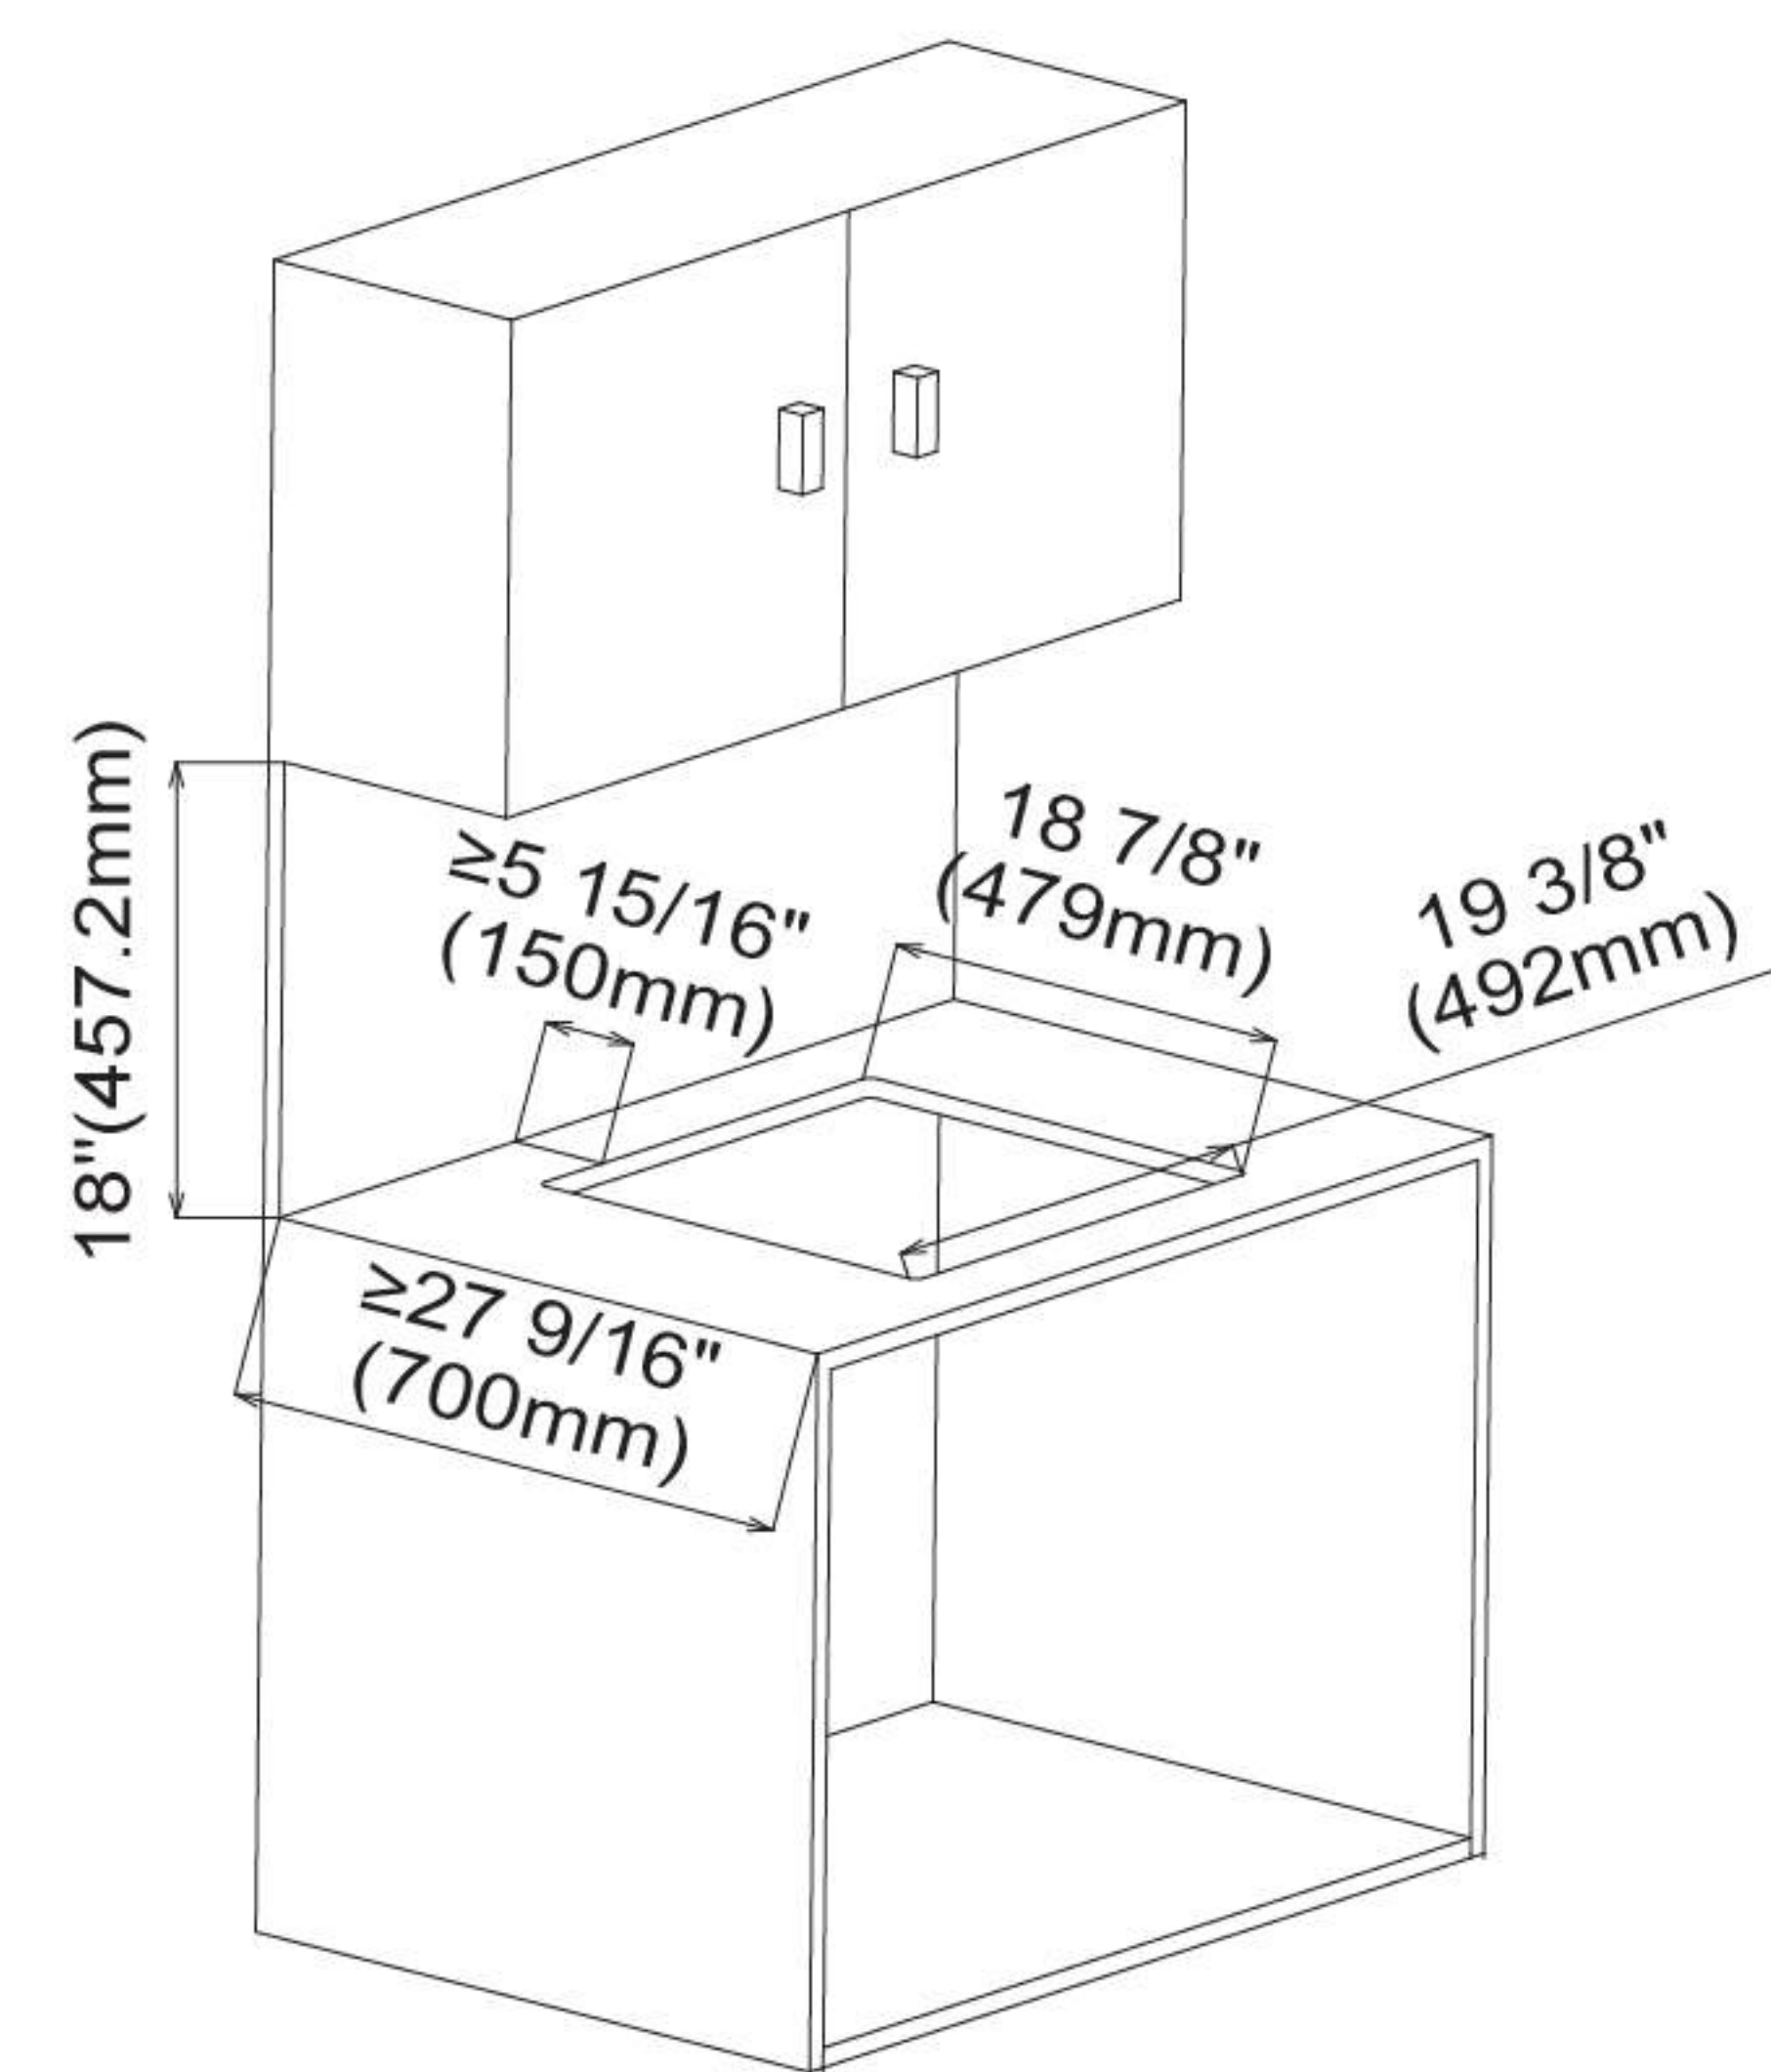

Fig. 1 (Drawing 18in)
9. If there is a wall-hung cabinet above the cupboard to be installed, a certain distance shall be kept between the hole and the wall surface. If the distance between the wall-hung cabinet and the countertop is 18in (457.2mm), the clearance from the front edge of the hole to the wall surface shall be equal to or greater than 5 15/16" (150mm) and the cupboard countertop depth shall be equal to or greater than 27 9/16" (700mm), as shown in Fig. 1 below; if the distance between the wall-hung cabinet and the countertop is 19in (482.6mm), the clearance from the front edge of the hole to the wall surface shall be equal to or greater than 2 13/16" (70mm) and the cupboard countertop depth shall be equal to or greater than 24 7/16" (620mm), as shown in Fig. 2 below.